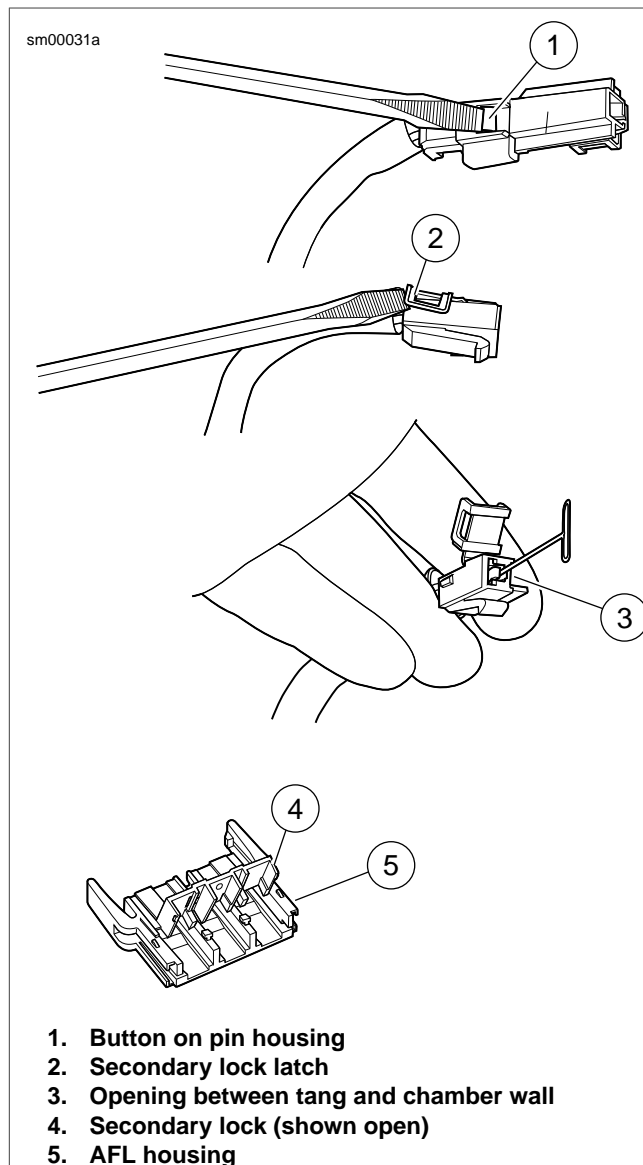

Figure A-13. Delphi 480 Metri-Pack Unsealed Connector: Remove Socket Terminal
See Figure A-13. An AFL housing (5) is used on many ignition/light switches. The secondary lock (4) must be opened before removing the terminal from the housing.
See Figure A-13. Using small flat blade screwdriver, press button (1) on pin housing (red wire) side of the connector and pull apart the pin and socket housings.
- See Figure A-13. Bend back the latch (2) slightly and free one side of secondary lock, then repeat to release the opposite side. Rotate the secondary lock outward on hinge to access terminal in chamber of connector housing.
- On the mating end of the connector, note the tang in the square shaped opening centered next to the terminal. Gently insert the point of a stick pin or large safety pin into the opening (3) between the tang and the chamber wall until it stops.